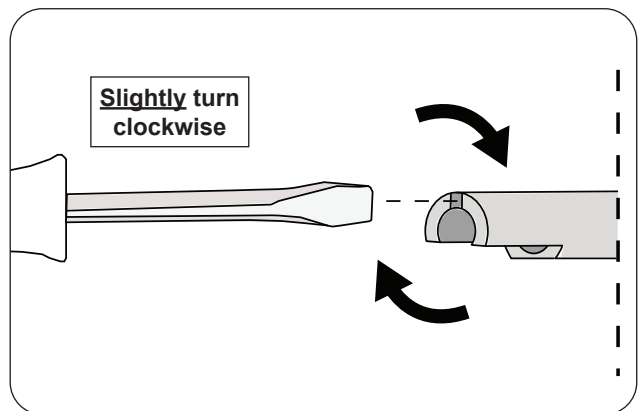

Fig. 47-2 Stem adjustment
2. Insert a flathead screwdriver into the split portion of the stem and GENTLY turn the screwdriver clockwise. Be cautious! Only a slight turn is needed as the stem is flexible. See Fig. 47-2.